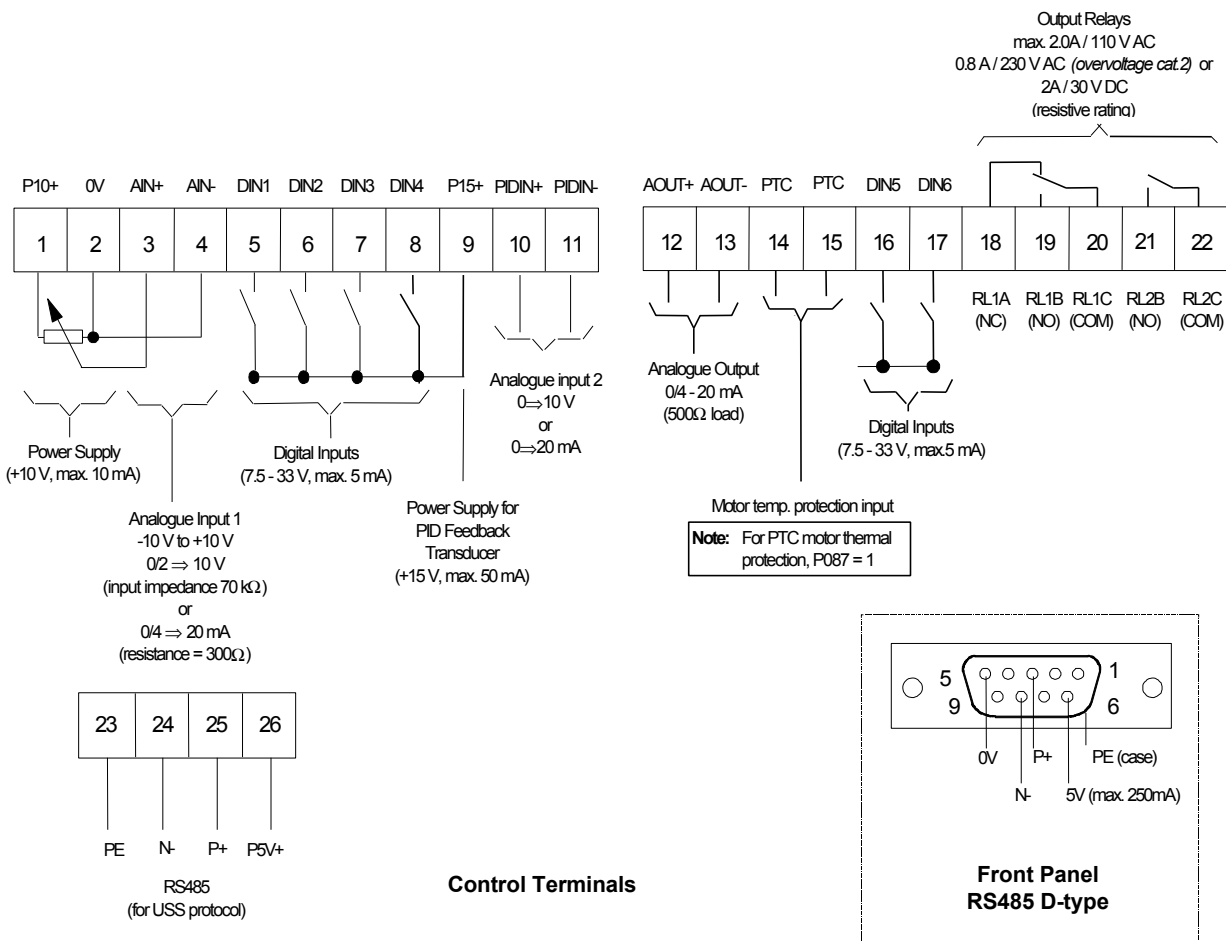

Figure 2.2.4: Control Connections - MICROMASTER Vector
A small bladed screwdriver, max. 3.5 mm will be required to operate the control terminal WAGO cable clamp connectors as shown in Figure 2.2.4.
Note: These connections have to be made with the inverter dismantled from the mounting surface. Care must be taken routing the leads through the moulded clips to prevent trapping and chafing when the unit is mounted and secured to the selected surface. Connect the control leads as shown in Figures 2.2.4 and 2.2.6.
15. Connect the control leads as shown in Figures 2.2.4 and 2.2.6.
11. Connect the control leads as shown in Figures 2.2.4 and 2.2.6